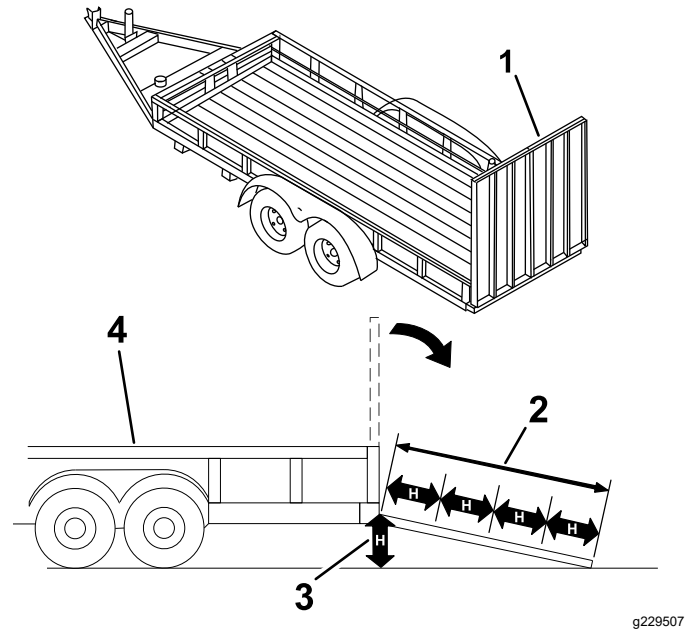

Figure 49
3. Lower the ramp, ensuring that the angle between the ramp and the ground does not exceed 15 degrees (Figure 49).
1. Lower the ramp, ensuring that the angle between the ramp and the ground does not exceed 15 degrees (Figure 49).